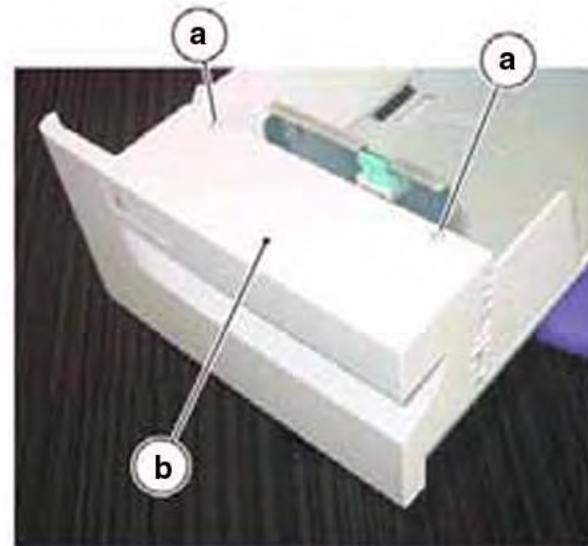

Figure 1 Cover Removal
3. Remove the Tray 3 Cover (Figure 1):
- a. Remove the Screws (2).